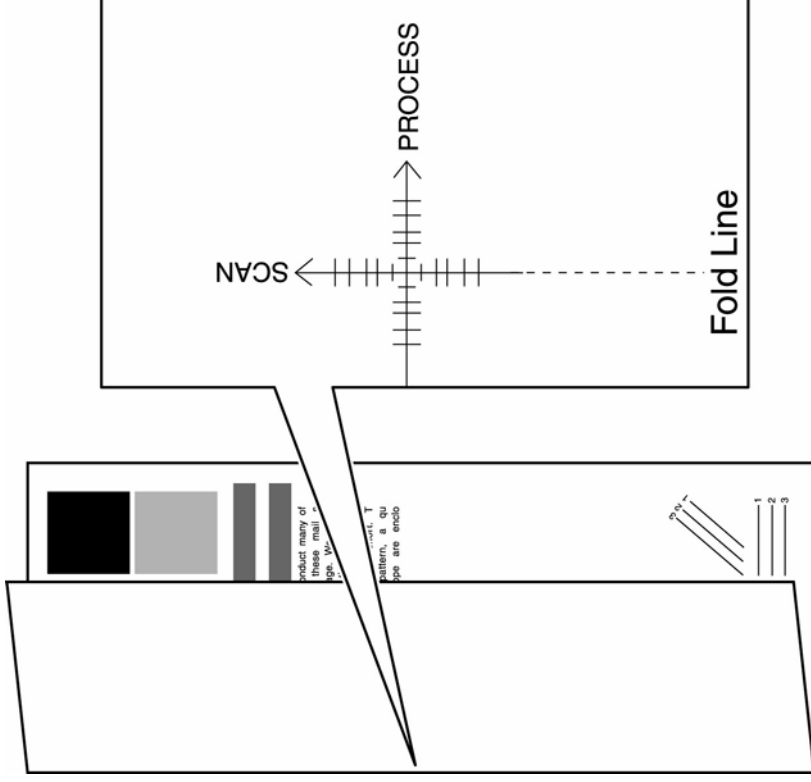

Figure 2 Process Direction
5. For the Process direction, leading to trailing edge, fold the test print as shown in Figure 2.